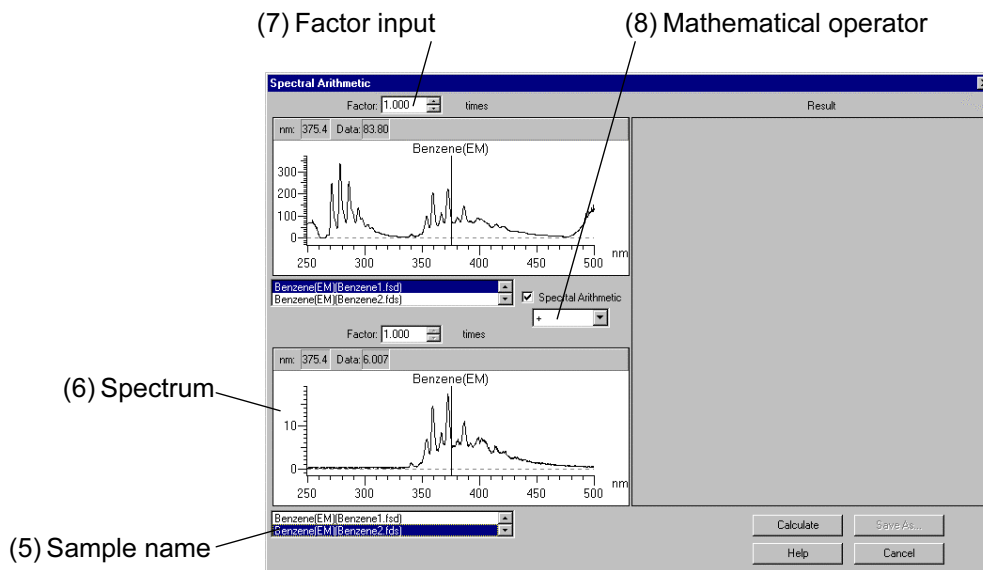

Fig. 6-20
- (1) The sample name of the file open in the window (file name in parentheses) is indicated. Select the file for arithmetic operation.
- (2) The spectrum selected in (1) is displayed here.
- (3) A factor for the spectrum selected in (1) is settable. For multiplying the spectrum by a factor, click **Calculate** here.
- (4) Apply a check mark here for arithmetic operation between two spectra. As a result, the window as in Fig. 6-20 appears.